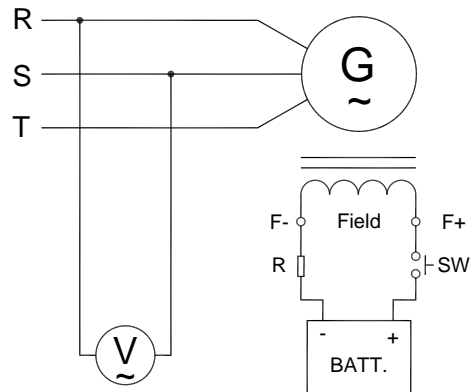

Figure 6 Manual Field Flash
5.2.1 Shut down generator, disconnect the wiring between AVR and generator then flash the field. Flashing duration = 3 seconds. (See wiring in Figure 6)
5.2.2 Restart generator and measure the residual voltage by AC Voltmeter, if it is still less than 5 Vac, repeat the previous process, after several times, the residual voltage still cannot be built, Kutai EB500 is strongly recommended, see Figure 6.